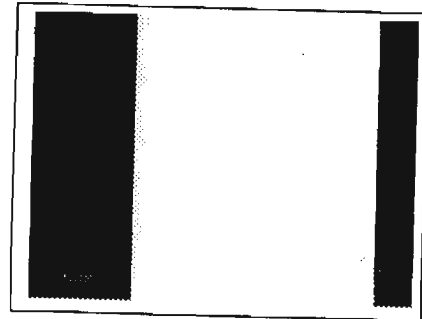
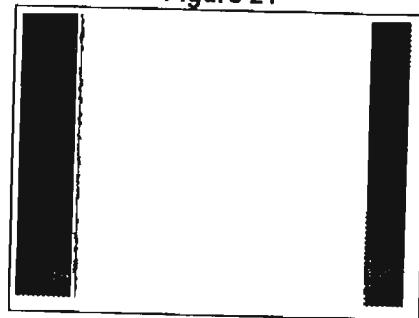
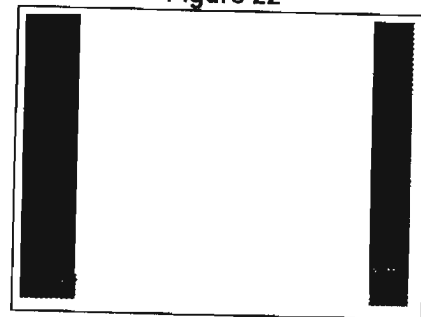

Figure 21
Figure 22
Figure 23
- e) Start turning potmeter **VR5** clockwise until you see the left bar getting wider (see Figure 21).
- f) When you see on your monitor the image like Figure 21, start turning potmeter **VR5** counter-clockwise until you see on the monitor that pixels are visible like Figure 22.
- g) Turn potmeter **VR5** slowly counter-clockwise **just until** you see no more pixels like in Figure 22 (Figure 22 changing into Figure 23).